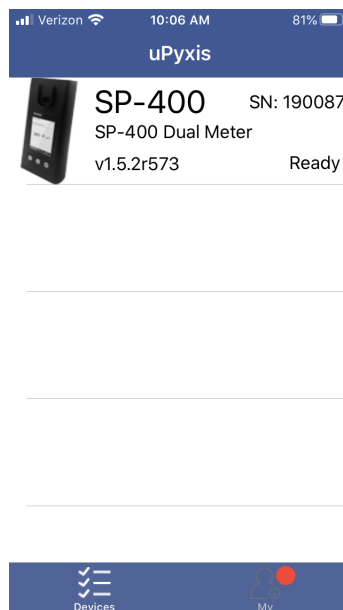

Figure 30.
4. If the connection is successful, the SP-400 and its Serial Number (SN) will be displayed (Figure 30).